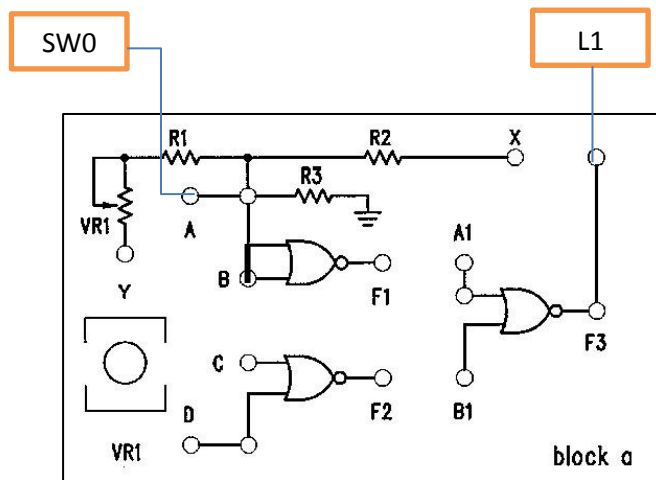

Fig. 1.1.2
1.1.2 To construct the circuit shown in **Figure 1.1(b)**, connect input A to input B by using a jumper. Then connect input A to SW0 and F1 to logic indicator L1. Refer to **Figure 1.1.2**. What is the state of F1 when SW=0 and SW=1? Record your observation in a truth table labelled as **Table 1.1(b)**. Does the circuit act as a NOT gate? Discuss your result.